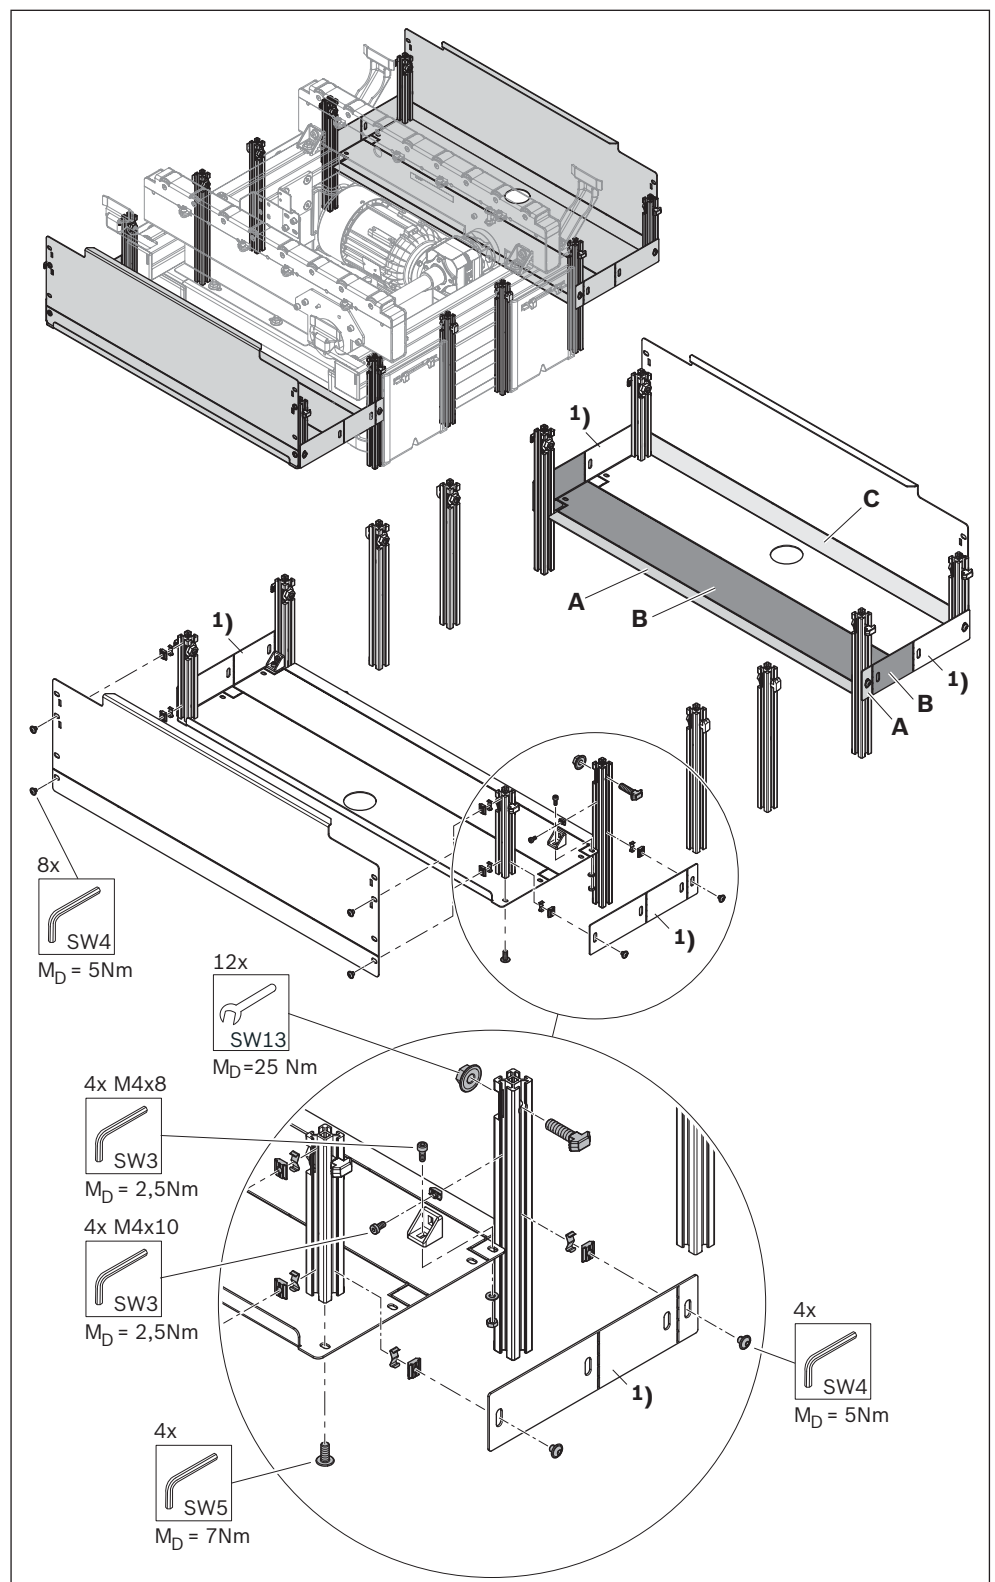

Fig. 35: Assembling the protective case
- Assemble the protective case according to Fig. 35. The gap dimensions must not exceed 5 mm.